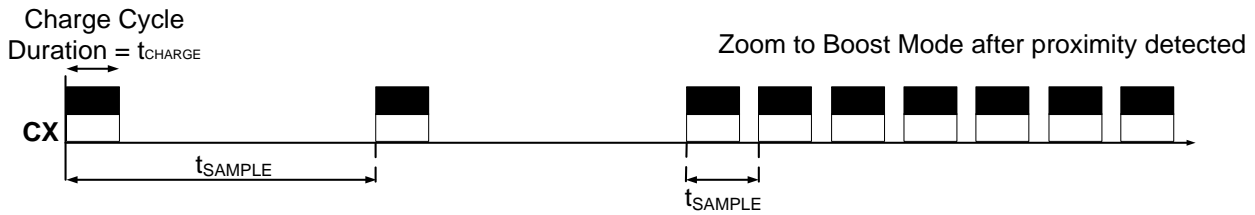

Figure 8.2 LP Modes: Charge cycles
The timings for all the Power Modes are provided in the table below. While in any power mode the device will zoom to BP whenever the count values (CS) indicate a possible proximity or touch event (see Figure 8.2). The device will remain in BP for  $t_{ZOOM}$  seconds and then return to the selected power mode. The Zoom function allows the fastest possible response by sampling at the BP frequency.